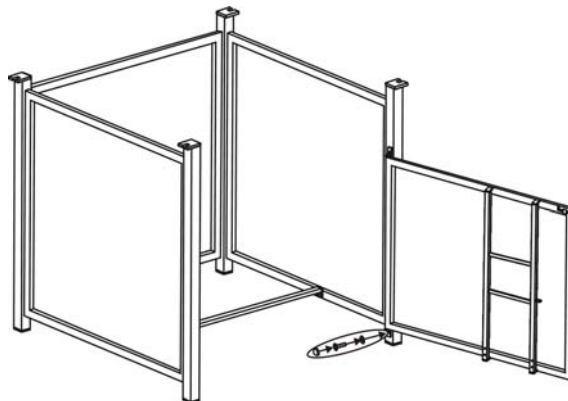

Figure 4
4. Attach the "L" connector to right side panel by using a 1/4"x15 mm bolt and washer as shown in Figure 4. Guide bolt through hole in "L" connector, into pre-drilled hole in the right side panel. **Do not over tighten.**